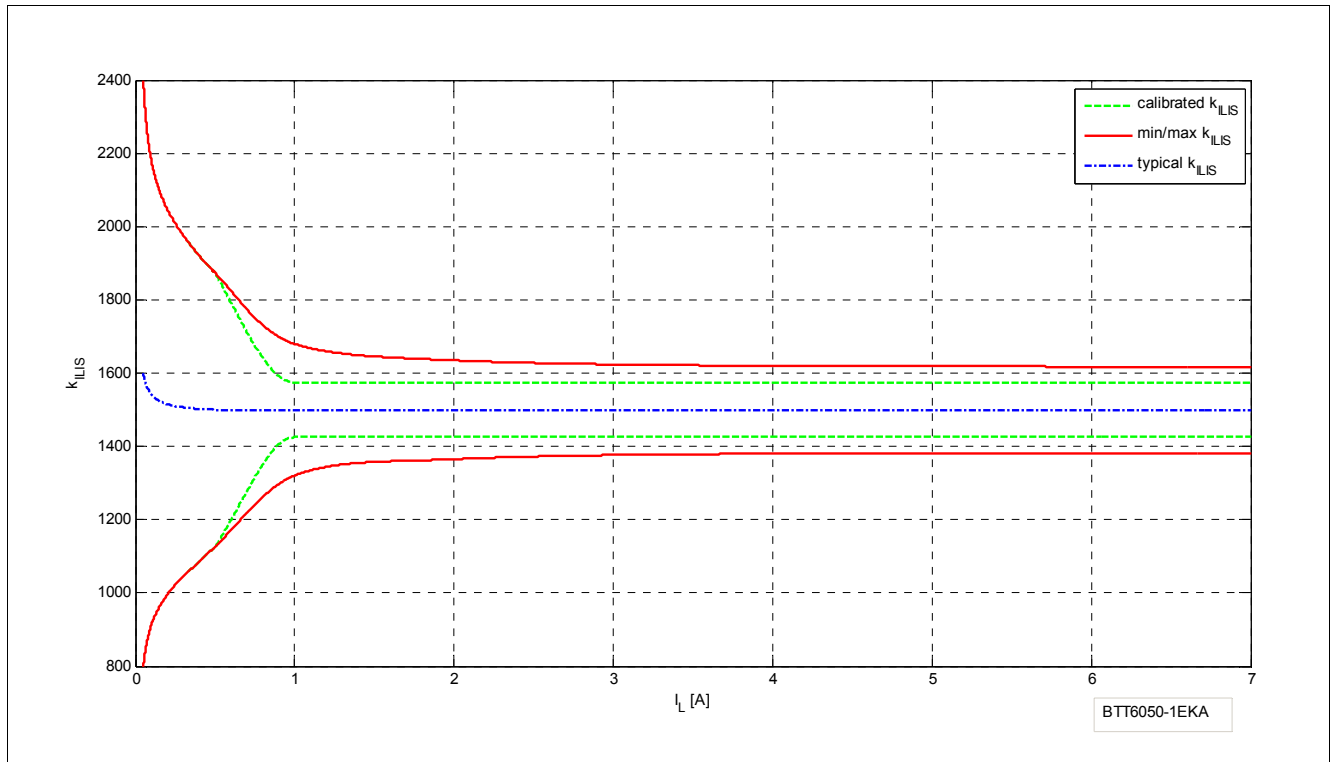

Figure 22 Improved Current Sense Accuracy with One Calibration Point
**Figure 21** and **Figure 22** show the current sense as a function of the load current in the power DMOS. Usually, a pull-down resistor  $R_{IS}$  is connected to the current sense IS pin. This resistor has to be higher than  $560\ \Omega$  to limit the power losses in the sense circuitry. A typical value is  $1.2\ \text{k}\Omega$ . The blue curve represents the ideal sense current, assuming an ideal  $k_{ILIS}$  factor value. The red curves show the accuracy the device provide across full temperature range, at a defined current.
In some applications a better accuracy is required around half the nominal current  $I_{L(NOM)}$ . To achieve this accuracy requirement, a calibration on the application is possible. To avoid multiple calibration points at different load and temperature conditions, the BTT6050-1EKA allows limited derating of the  $k_{ILIS}$  value, at a given point ( $I_{L3}$ ;  $T_J = +25\ ^\circ\text{C}$ ). This derating is described by the parameter  $\Delta k_{ILIS}$ . **Figure 22** shows the behavior of the sense current, assuming one calibration point at nominal load at  $+25\ ^\circ\text{C}$ .